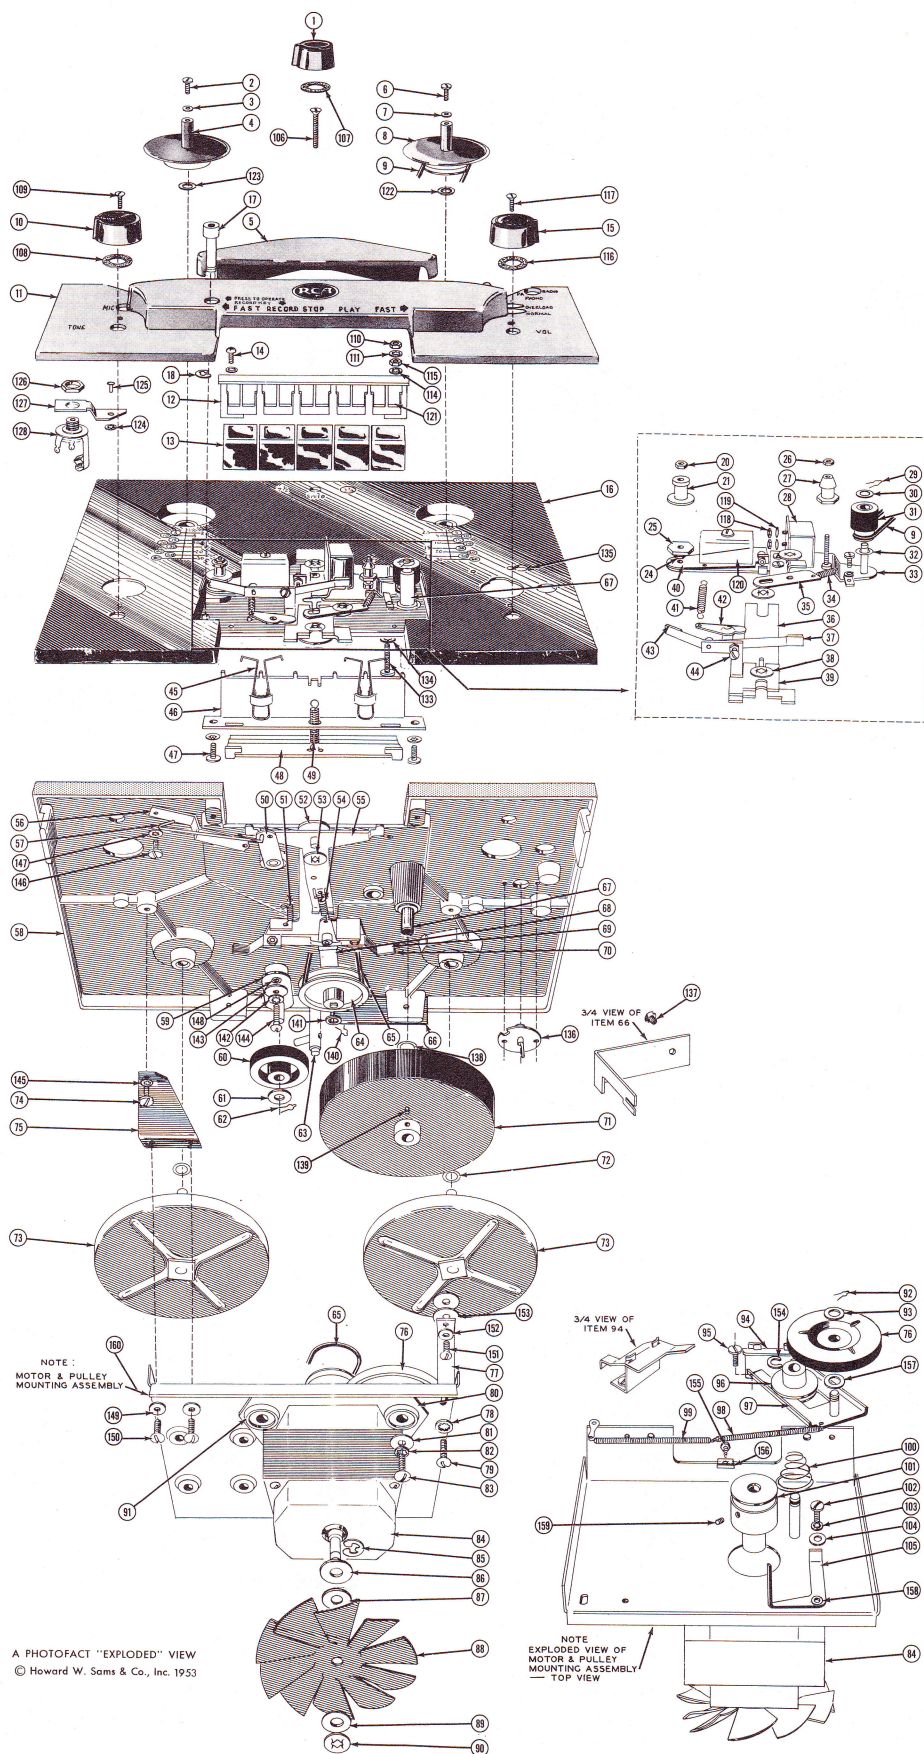

Figure 6.
CAUTION: Make sure the head retracting spring (24), see Figure 6, remains in front of the erase head while adjusting it.
3. Check to see if the top edge of the tape coincides with the top end of the diagonal slot in the erase head (junction of long diagonal slot and short vertical slot). To adjust level of tape, loosen lock nut (20), see Figure 6, and rotate tape guide post (21) to move tape up or down. Tighten lock nut (20).
4. After this adjustment has been made, check to see if the tape moves forward approximately 1/64" when the "Record" button is depressed, if not, loosen the forward adjustment screw (23) and turn the screw in or out as required to obtain this 1/64" adjustment. Tighten the lock nut.
1. Idler lever tension spring (54) may be loose or broken; if so, the idler lever (68) will not be actuated. Replace spring (54).
2. Check idler drive belt (65), see Figure 6, to see if it is properly connected.